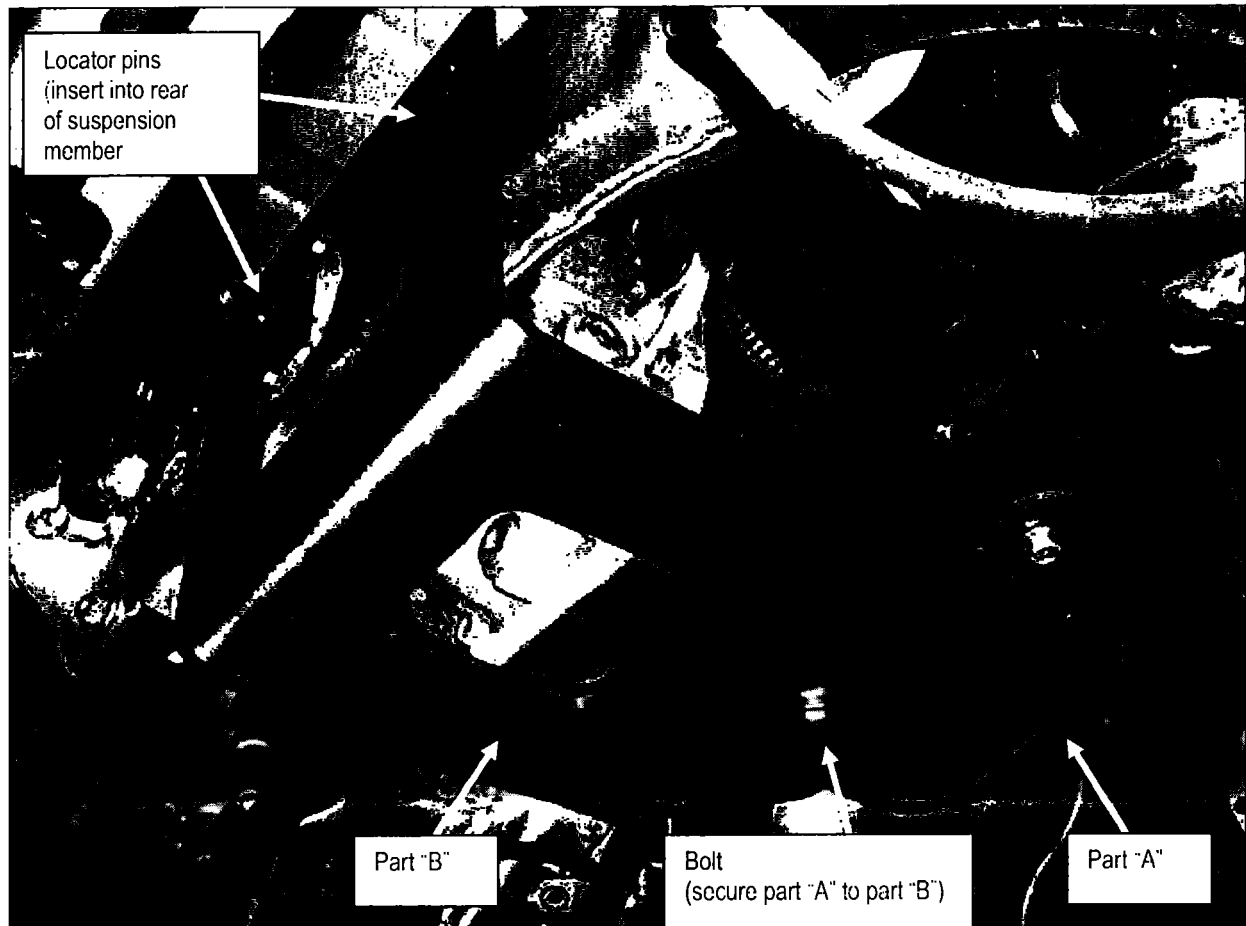

Figure 63
- b. Slide part "B" of the adapter tool over the rear of part "A". Then, insert the locator pins at the upper corners of the tool into the rear suspension member (see Figure 63).
- c. Install and tighten the bolt that holds "part A" to "part B" as shown in Figure 63.